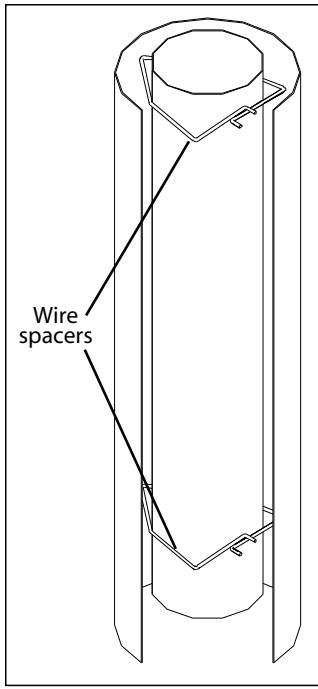

Figure 25: Wire Spacers.
8. Slide the Ø6 5/8" (16.25 cm) flex intake liner over the flex vent. Install four (4) wire spacers around the flex pipe. Ensure the wire spacers are positioned at either end of the pipes, and at each end of any elbows in the liners (refer to Figure 25 and 26).